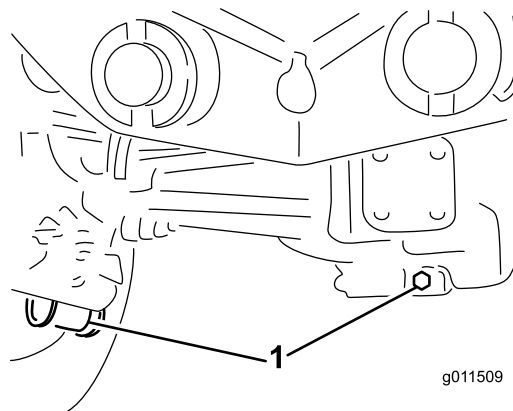

Figure 93
2. Clean the area around the 3 drain plugs; 1 on each end and 1 in the center (Figure 93).